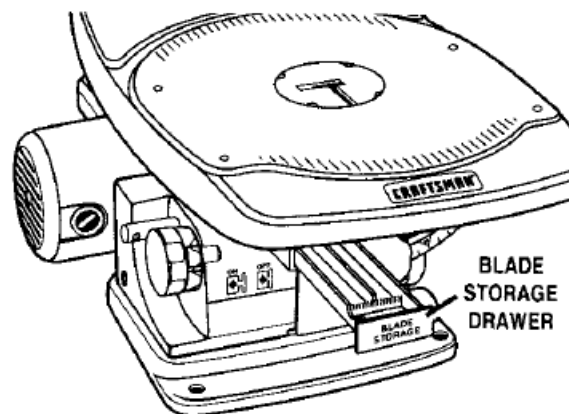

Fig. 4
- Attached under the left side of the table is a blade storage drawer. It will hold up to 20 blades. The drawer snaps closed securely. See Figure 4.